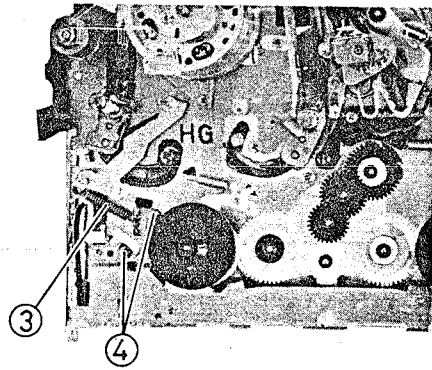

Fig. 2-96 Tension Arm and Tension Band Removal
3. Remove the tension spring (See Fig. 2-96)
4. Remove two (2) screws holding the tension arm and tension band.